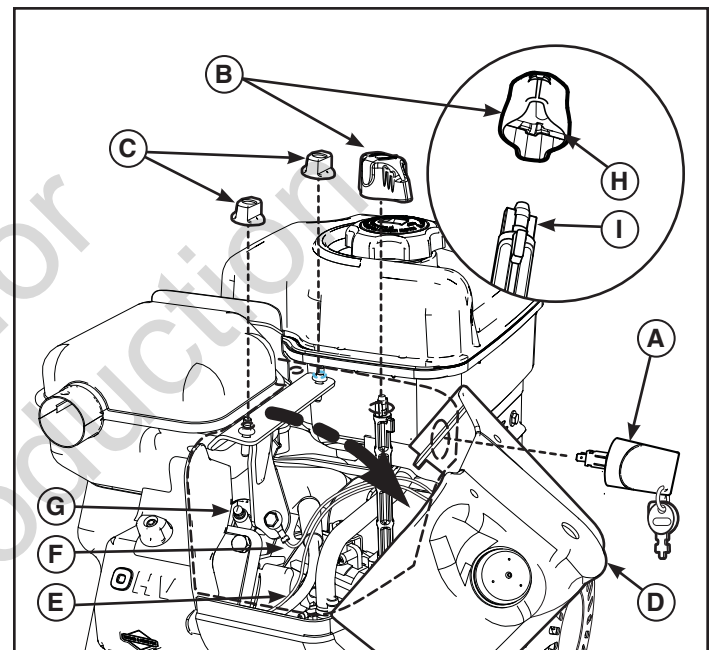

Figure 14
1. Remove the ON/OFF key (A, Figure 14) or pull out the ON/OFF switch or Push/Pull key. Keep the key away from children.
2. Grasp the choke control (B) and pull up to remove.
3. Remove the mounting screws (C).
4. Carefully remove the top part of the snow hood (D). DO NOT disconnect the primer hose (E) or the key wire (F).
5. Remove the spark plug (G) and replace. (See Specifications).
8. Align the slots (H, Figure 14, Inset) in the choke knob with the tabs on the choke shaft (I) and push down to install. If knob is not installed correctly, the choke will not operate.